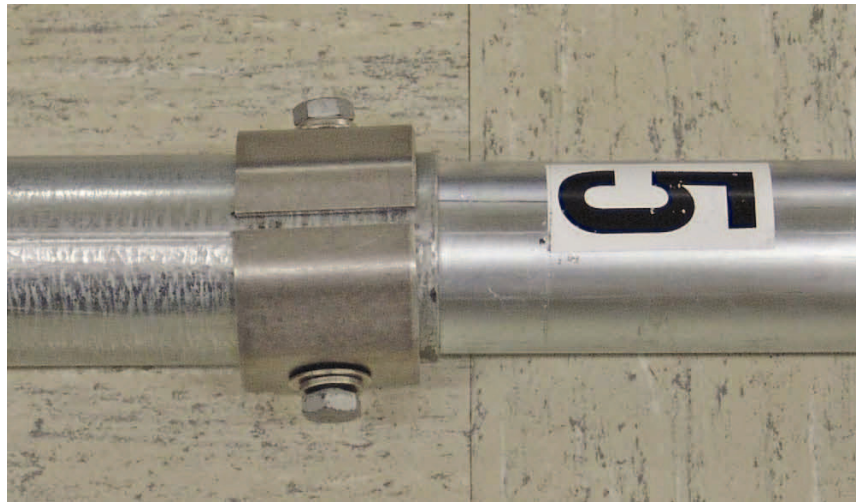

FIGURE 2.2-14. Mast Section 5 Installed in Mast Section 4
Step 13: Slide mast into Section 4 and assemble collars, as shown in Figure 2.2-14.